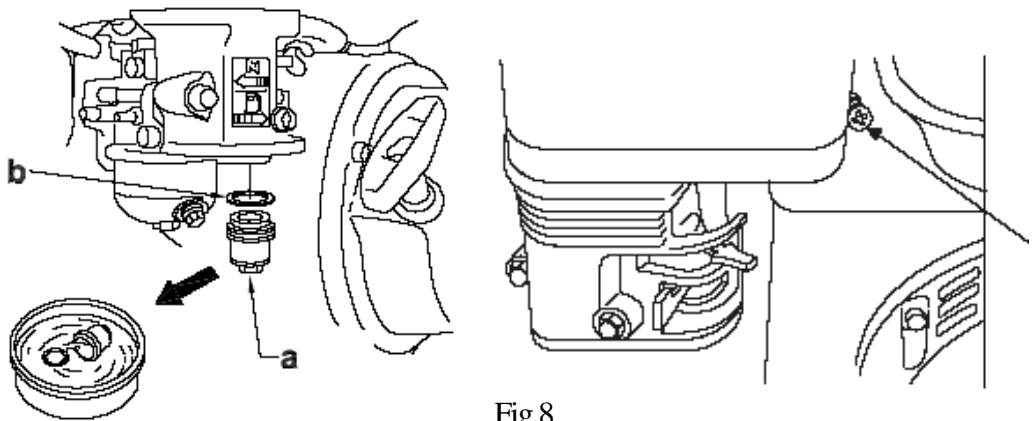

Fig.8
5.8 Cleaning Sediment Cup(Fig.8)